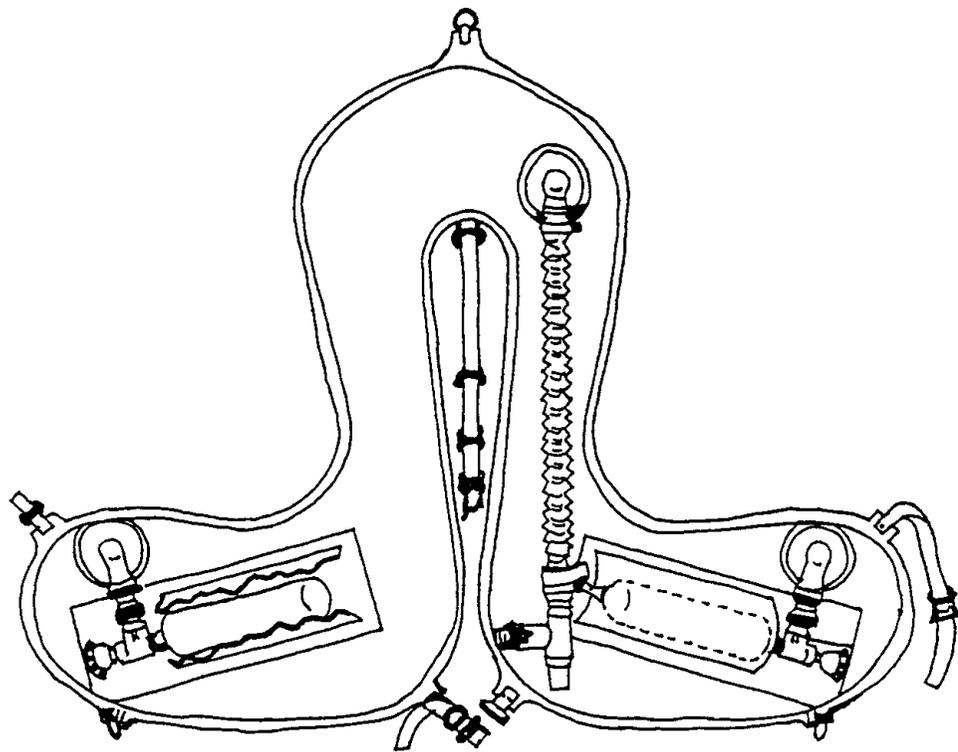

Figure 1-1 Life Preserver, Vest
(2) TAMCN K4516IIE
(3) Stores Account Code (SAC) 1
(4) NSN 4220-01-263-1988
(5) Unit of Issue Each
(6) Unit Cost \$1280 (est)
(7) Support Cost N/A
(8) Petroleum, Oil and Lubricants N/A
(9) Equipment Density Normal
(10) Readiness Reporting N/A
(11) Identification Number 09602A
b. Physical Characteristics. A drawing of the Life Preserver, Vest is provided as Figure 1-1.
{li MCOFH001.gif:Figure 1-1, Life Preserver, Vest}